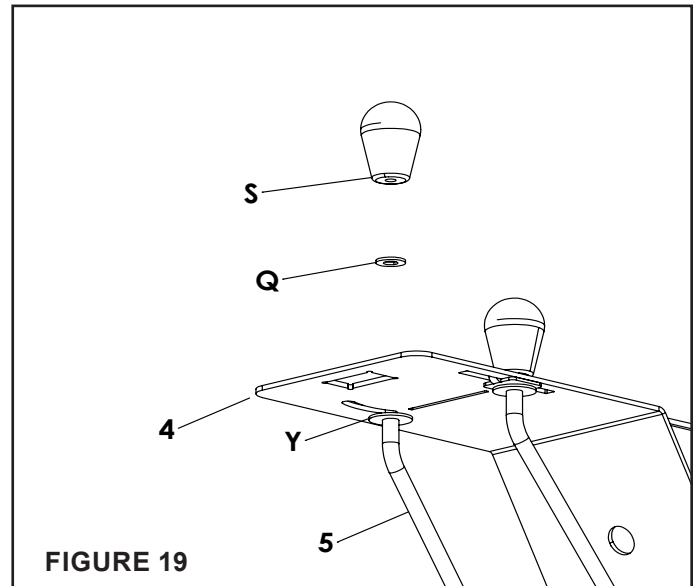

FIGURE 19
STEP 19: (SEE FIGURE 19)
- Install a flow control rod (5) through washer (Y) and control bracket assembly (4).
- Install a washer (Q) onto the threaded end of the flow control rod (5).
- Install a knob (S) onto the threaded end of the flow control rod (5).